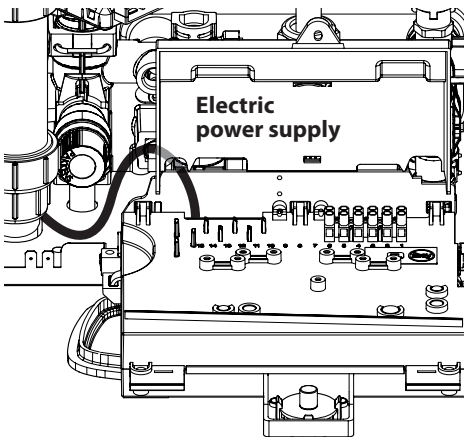

Figure 5.21
- Connect the electric power supply cable to the multiway switch, respecting the correspondence of the power line (brown wire) and the neutral (blue wire) Figure 5.21.